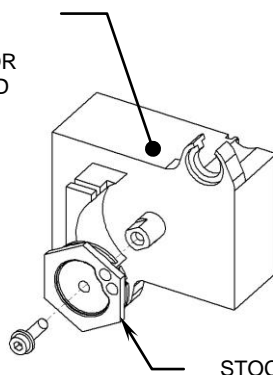

FIGURE 2
6. Remove the dust cover from the solenoid to expose the rotating cam and cables. **DO NOT TRY TO ROTATE THE CAM RELATIVE TO THE ACTUATOR SOLENOID TO REMOVE THE CABLES; DOING SO MAY DAMAGE THE INTERNAL COMPONENTS OF THE SOLENOID.** To remove the cables from the cam, use the slack in the cables obtained in Step 5 to disengage the cable barrels from the cam, see Figure 2.